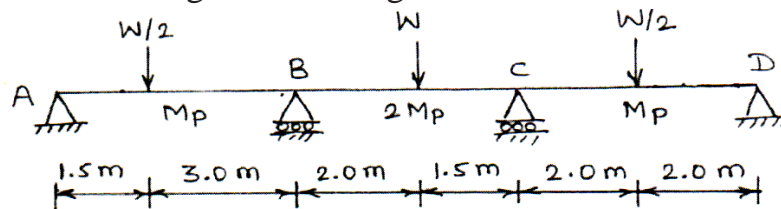

Fig. 2 (b)
- b) Find value of W at collapse for the continuous beam shown in Fig. 2 (b) & Draw bending moment diagram. **[12]**